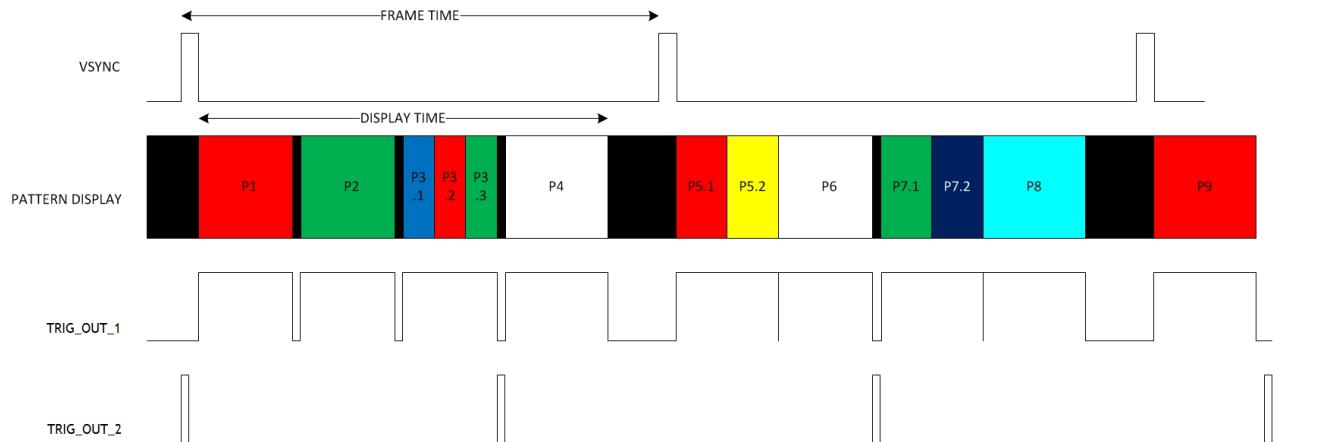
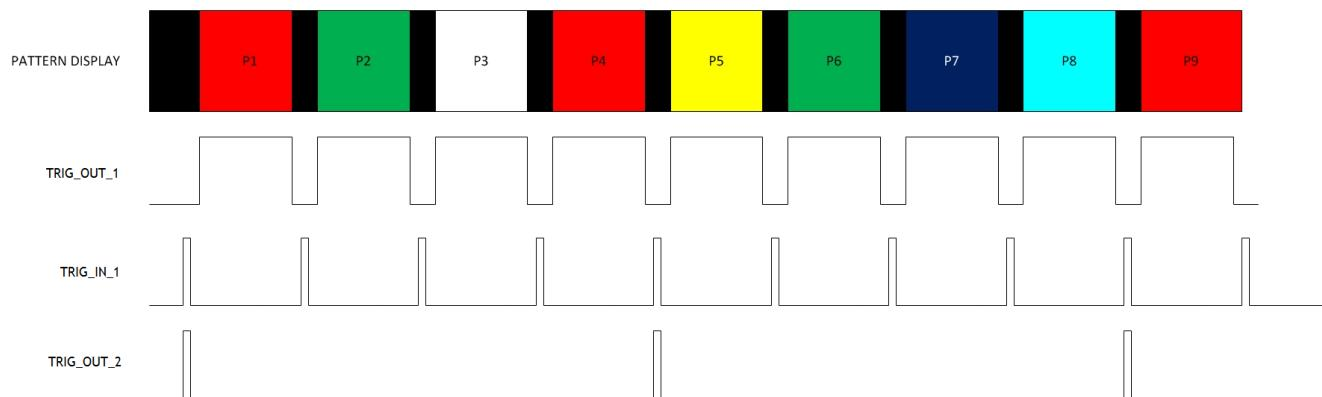

Figure 3-10. VSYNC Pattern Trigger Mode
Figure 3-11. External Pattern Trigger Mode
- TRIG_OUT_2 indicates the start of the pattern sequence or internal buffer boundary of a 24-bit-plane. examples of signals Figure 3-10 and Figure 3-11 show.
In pattern sequence mode, the 48 bit-planes can be preloaded from flash memory and then sequenced with a combination of patterns with different bit depths. To synchronize a camera to the displayed patterns, the DLPC350 supports two trigger inputs and two trigger outputs. TRIG_IN_1 pulse indicates to the DLPC350 to advance to the next pattern, while TRIG_IN_2 starts and stops the pattern sequence. TRIG_OUT_1 frames the exposure time of the pattern, while TRIG_OUT_2 indicates the start of the pattern sequence or internal buffer boundary of 24 bit-planes. For example, in Figure 3-10, the VSYNC starts the pattern sequence display. The pattern sequence consists of a series of three consecutive patterns. The first pattern sequence consists of P1, P2, and P3. P3 is an RGB pattern, it is shown with its time-sequential representation of P3.1, P3.2, and P3.3. The second pattern sequence consists of three patterns: P4, P5, and P6. The third sequence consists of P7, P8, and P9. TRIG_OUT_1 frames each pattern exposed, while TRIG_OUT_2 indicates the start of each of the three pattern sequences. In Figure 3-11, a pattern sequence of a group of four patterns are displayed. TRIG_OUT_1 frames each pattern exposed, while TRIG_OUT_2 indicates the start of each four-pattern sequence. TRIG_IN_1 pulses advance the pattern.